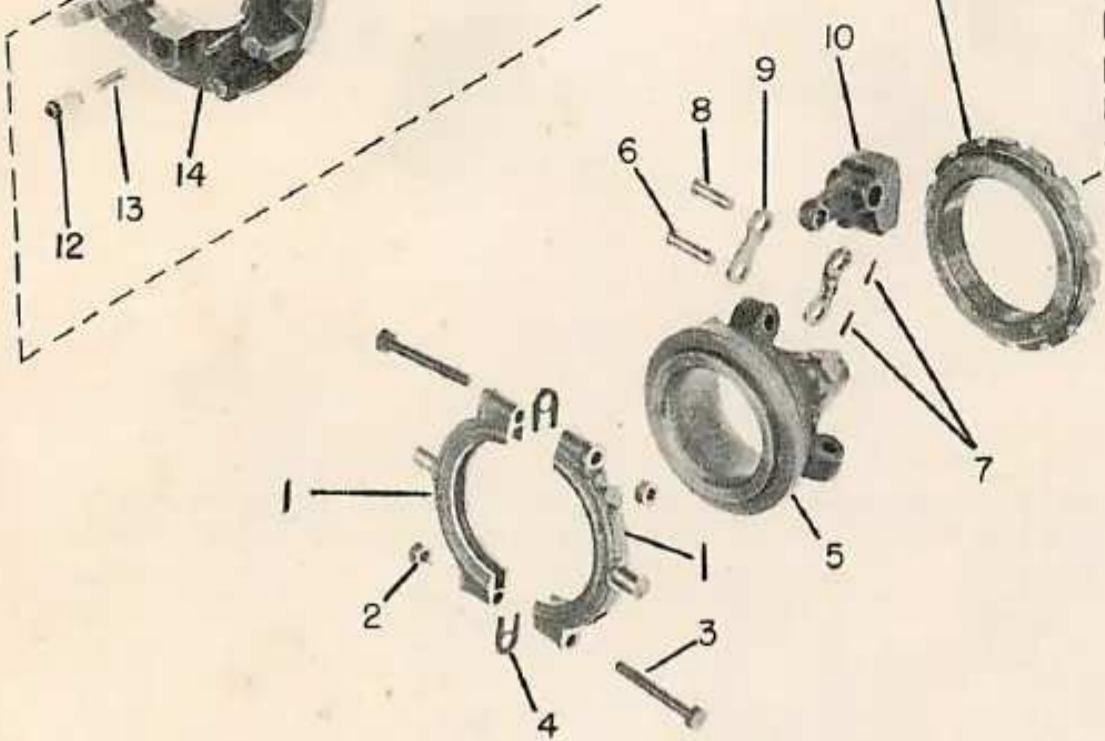

Fig. O139 — Exploded view of the multiple disc clutch assembly used in dual speed pto. Refer to Fig. O138 for complete pto assembly.
ing and rotate clutch assembly so that adjusting ring lock pin (12—Fig. O139) can be seen through plug opening. Depress the lock pin and turn adjusting ring (11) with screwdriver. Turn ring to left to increase pressure, or to right to decrease pressure required to engage clutch. Clutch adjustment is correct when 48-52 pounds pull is required to engage clutch. Adjustment can be checked with a spring pull scale attached to control lever just below the lever grip. Move adjusting ring just one notch at a time and recheck clutch adjustment. When adjustment is correct, reinstall pipe plug.
For disassembled view of the clutch assembly, refer to Fig. O139. Drive out the roll pins (16), remove pins (15), sliding collar (5), levers and sleeve collar (1) from floating plate (14). Depress locking pin (12), unscrew adjusting ring (11) and remove adjusting ring, floating plate and clutch discs from clutch hub (19). Any further disassembly which may be required is evident from inspection of unit.